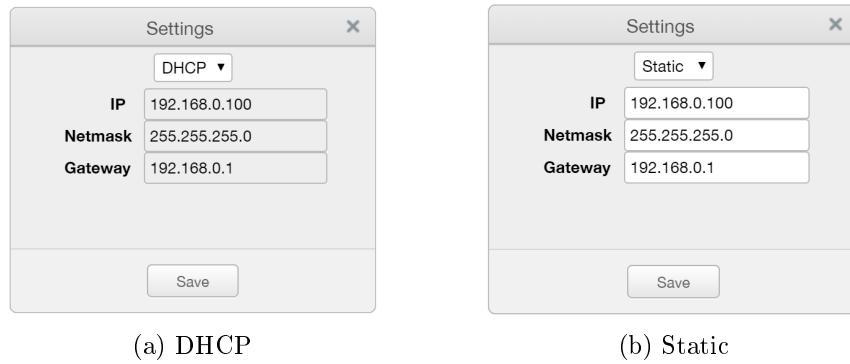

Figure 8: Two ways to change the robot's network configuration
2. Depending on your configuration, choose DHCP to automatically receive an address from your router or Static to force a specific IP. You don’t need to reboot the robot; the new configuration will be applied as soon as you click on the Save button (Fig. 8).